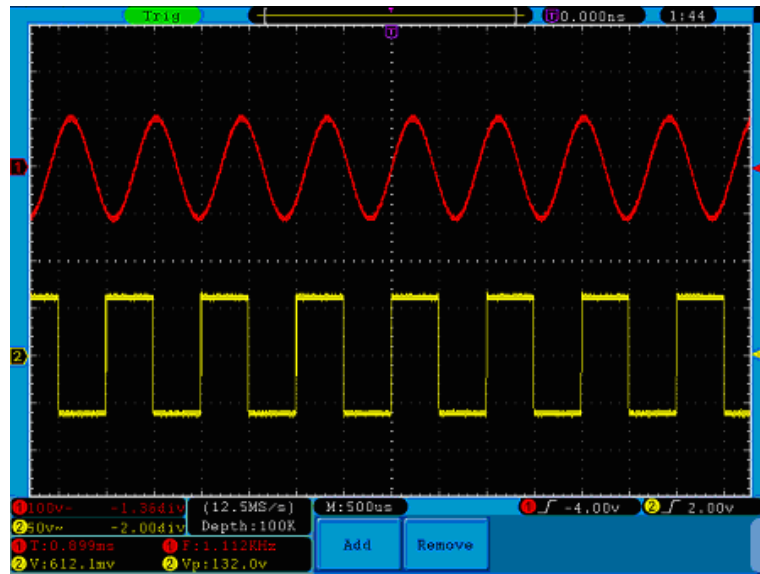

Figure 65. Automatic measurement.
- 13 The measured value will be displayed at the bottom left of the screen automatically (see Figure 65).